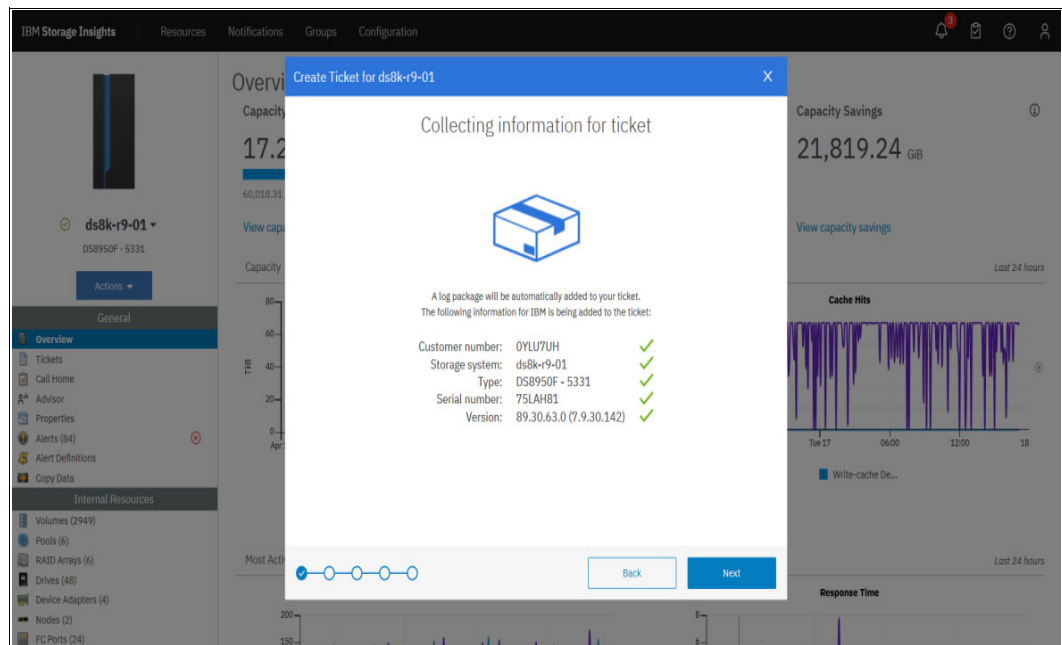

Figure 12-22 IBM Storage Insights: Collecting ticket information
Figure 12-22 shows the process of collecting the needed ticket information, which includes the details of the DS8000 storage system.
3. In Figure 12-22 on page 454, click **Next**. In the window that opens, you describe the reason for opening the ticket with IBM. The mandatory field for the summary is limited to 72 characters. Figure 12-23 shows an optional field that you can use to provide more details.